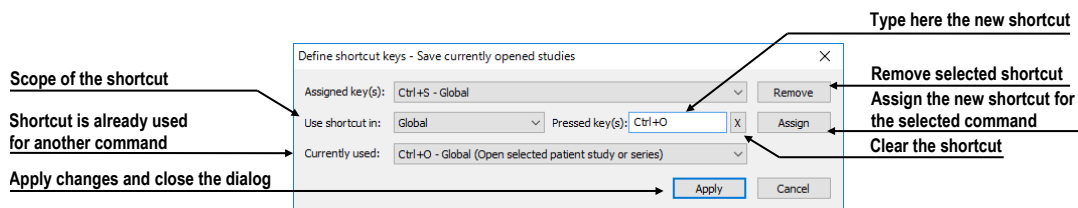

Figure 72 - Define shortcut keys dialog
3. The **Define shortcut keys** dialog is then displayed (see Figure 72). Press the key or key combination for the new shortcut. The key or key combination pressed is shown in the **Pressed key(s)** box. To re-select the combination, press the **Backspace** key. The key combination will be cleared, and a new one can be entered.